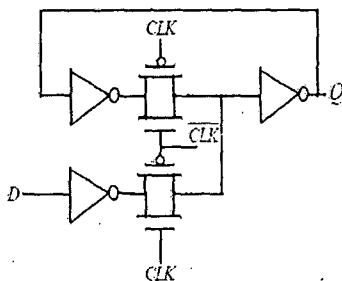

Figure 2
- 5. What type of latch is shown in Fig.2 and justify with reason.